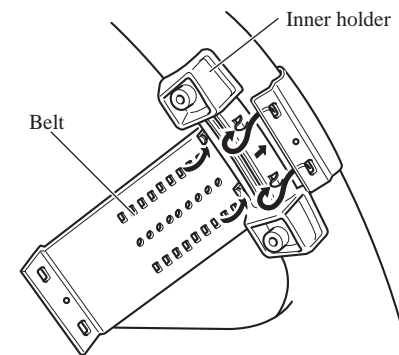

Fig. 13
1. Secure inner holder to the inner circumference of the steering wheel with belt. (Fig. 13)